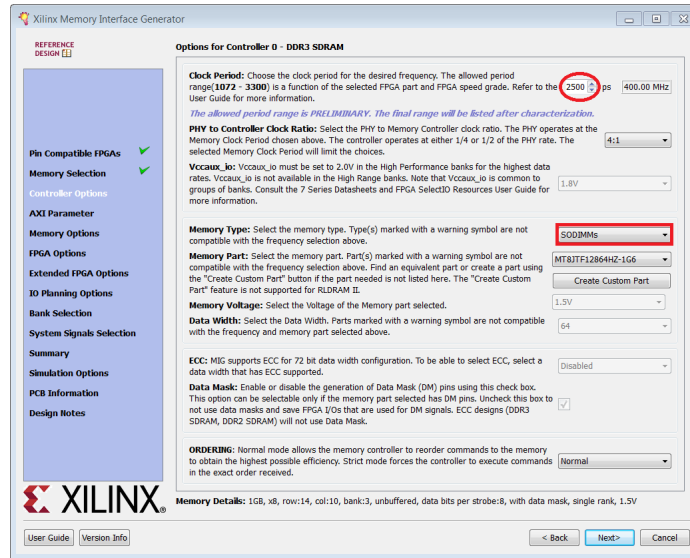

Figure 92: MIG page: Controller Options
g. Click **Next** (Figure 92).